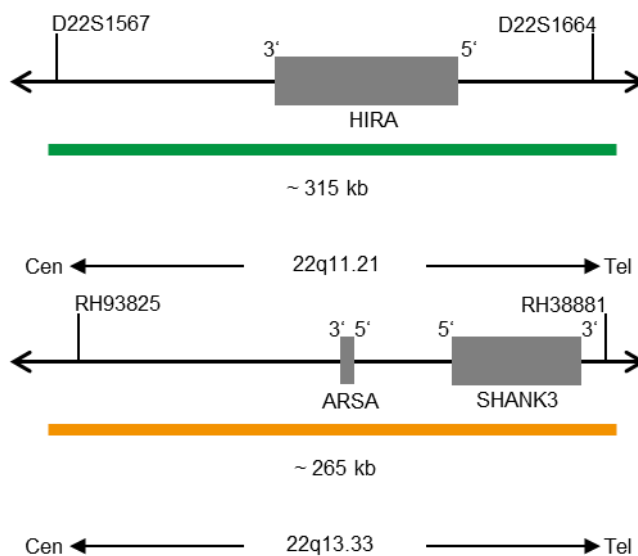

Fig. 1: Top: SPEC HIRA Probe map; Bottom: SPEC SHANK3 Probe map (not to scale)
- ZyGreen (excitation 503 nm/emission 528 nm) labeled polynucleotides (~10.0 ng/μl), which target sequences mapping in 22q11.21\* (chr22:19,191,435-19,506,869) harboring the HIRA gene region (see Fig. 1).
- ZyOrange (excitation 547 nm/emission 572 nm) labeled polynucleotides (~4.5 ng/μl), which target sequences mapping in 22q13.33\* (chr22:50,924,766-51,188,029) harboring the SHANK3 gene region (see Fig. 1).